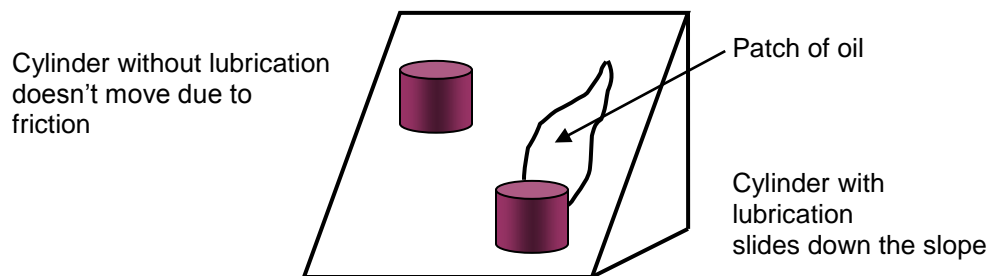

FIGURE 2: Effect Of Lubrication On Friction
- Use a lubricant which flows between parts to create a fluid surface, thus creating less friction than that between solid surfaces (see Figure 2).